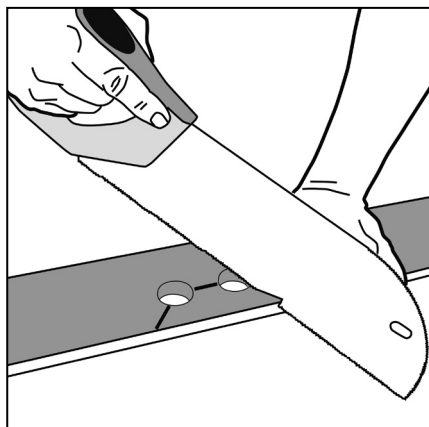

Figure 20 Radiator pipes
- > Cut around as shown with a saw or with a sharp utility knife (Fig 20 overleaf).